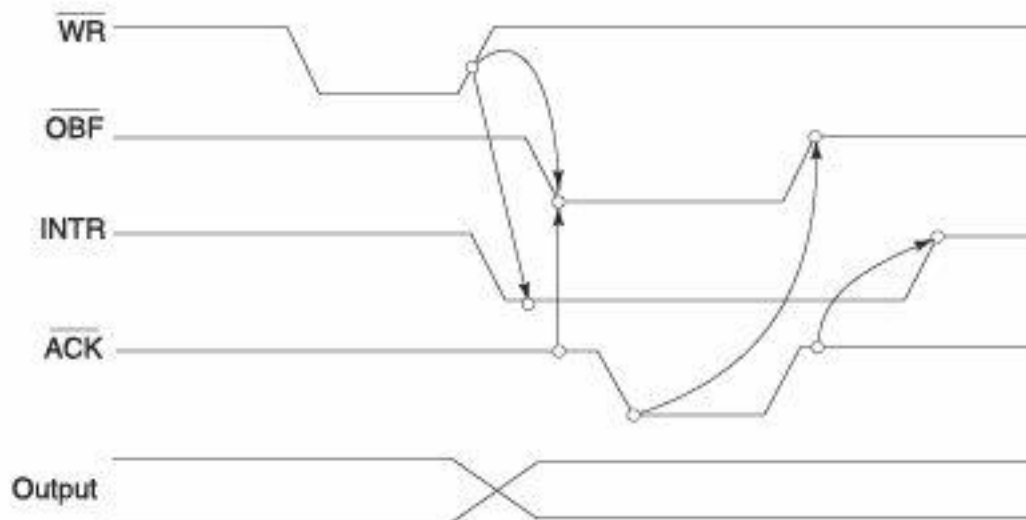

Fig. 5.11 Timing Waveform for Strobed Output with Handshake in Mode 1.
OBF (Output Buffer Full): This is an output signal that goes low when the MPU writes data into output latch of 8255A. This signal indicates to an output peripheral that new data is ready to be read as shown in Figure 5.11. It goes high again after the 8255A receive an acknowledgement from peripheral.
\overline{ACK} (Acknowledgement): This is an input signal from a peripheral that must output a low, when the peripheral receives the data from 8255A ports (Figure 5.11).
2. **Status word to check $\overline{\text{OBF}}_A$:** It is checked by masking address with status word as shown in Figure 5.11(b). The OBF_A bit is set to 1 and it is given as:
In the print subroutine, the character is placed in the accumulator first and then the status is read by the instruction "IN FEH". Initially, the port A is empty, bit PC_1 ($\overline{\text{OBF}}_A$) is high. The instruction "OUT FCH" send the first character to port A. The presence of data byte in port A is indicated by $\overline{\text{OBF}}$ signal, when it goes low in the rising edge of $\overline{\text{WR}}$ signal as shown in Figure 5.11(c). After receiving a character, the printer sends back an acknowledgement signal, which in turn sets $\overline{\text{OBF}}_A$ high, and indicate that the port A is ready for next characters, and print subroutine continues.